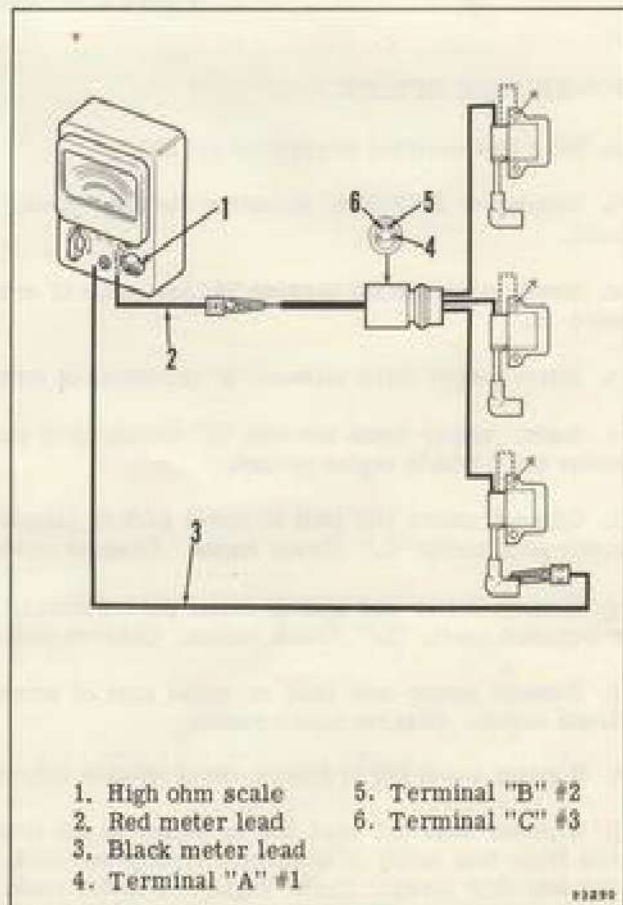

Figure 4-31. Secondary Winding Resistance
- f. Calibrate the ohmmeter to high ohm scale, then connect the meter red lead (+) to the "A" terminal jumper wire. Connect the meter black lead (-) to the terminal inside the high tension lead cover. See Figure 4-31.